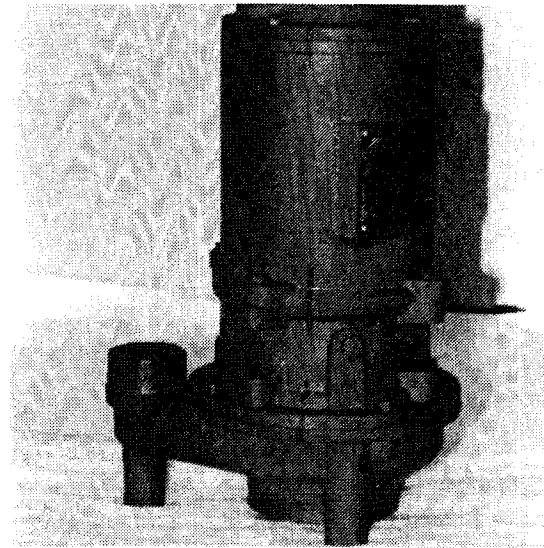

FIG. 12
2. Before removing any other parts use a marking pen to mark joining parts so that they can be replaced in same position as removed. See Figure 12.